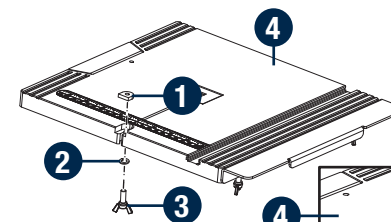

Fig. 3a
## ASSEMBLING THE WORK TABLE (Fig. 3a-3c)
- Remove the D-nut (1), flat washer (2) and wing screw (3) from the hole located in the front edge of the work table (4). (Fig. 3a)
- Standing at the front of the band saw, slide the work table (4) past the blade (5) and through the slot moving from the right side of the work table to the left.
- Holding the work table with your left hand and slightly tilt the rear side of work table (4) downward while pulling the table tilt adjustment knob (6) away from the saw frame, align the teeth on the table support assembly (7) with the teeth on the table tilt adjustment knob (6) and the scale indicator (8) aligned to zero on the table tilt gauge (9). Release the knob.
- Fit the pins on the frame into the slots of the table support assembly (7).
- Insert the big flat washer 8 (10) on the threaded end of the table tilt locking lever (11). Tighten the work table to the saw frame by turning the table tilt locking lever (11) clockwise.